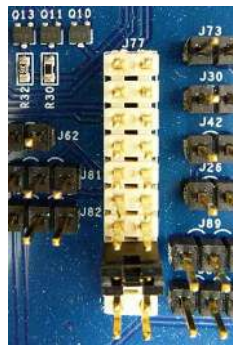

Figure 54.
- Jumper J₈₈ Pin 2 to J₈₈ Pin 1 (VCC) to command continuous conduction mode (CCM) or J₈₈ Pin 2 to J₈₈ Pin 3 (GND) to command diode emulation mode (DE).
- Jumper J₇₇ Pin 5 to J₇₇ Pin 6 to command PWM_EN, see Figure 54. Avoid bounce to this connection.